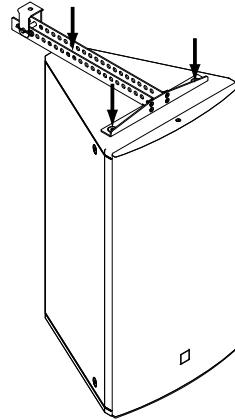

Fig. 2
3. Align the TB-R with the three holes on the top of the cabinet and fasten it in place using the M10 screws that you just removed (fig. 2).